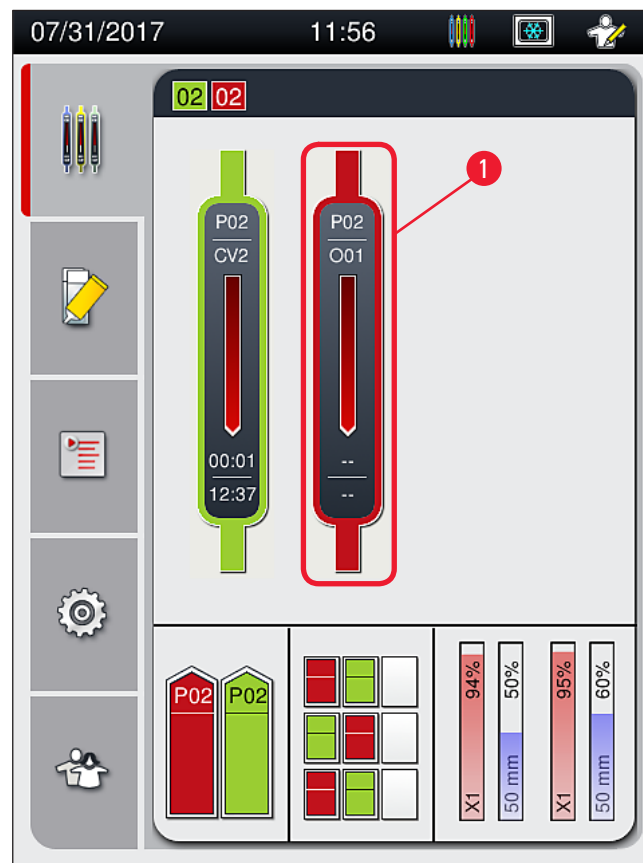
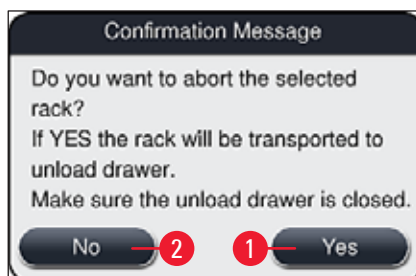

Fig. 78
Fig. 80
- ① Coverslipping operations can only be canceled using the process status display (→ Fig. 78).
After pressing the **Abort Rack** (→ Fig. 79-1) button, an information message is displayed (→ Fig. 80). Confirm the cancellation with the button **Yes** (→ Fig. 80-1) or press **No** (→ Fig. 80-2) to return to the process status display (→ Fig. 78).